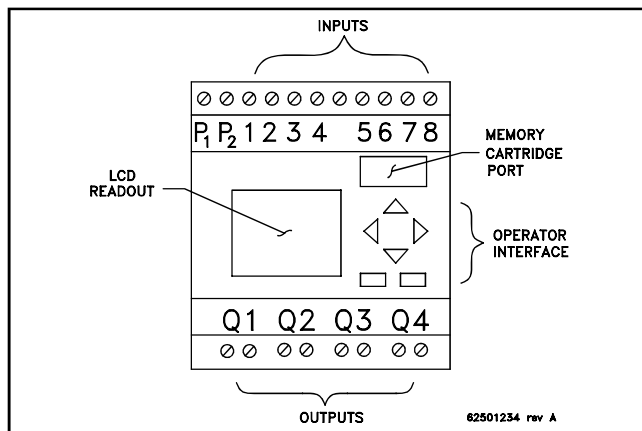

FIGURE 7
A. COMPONENT FUNCTION (Figures 7, 9)